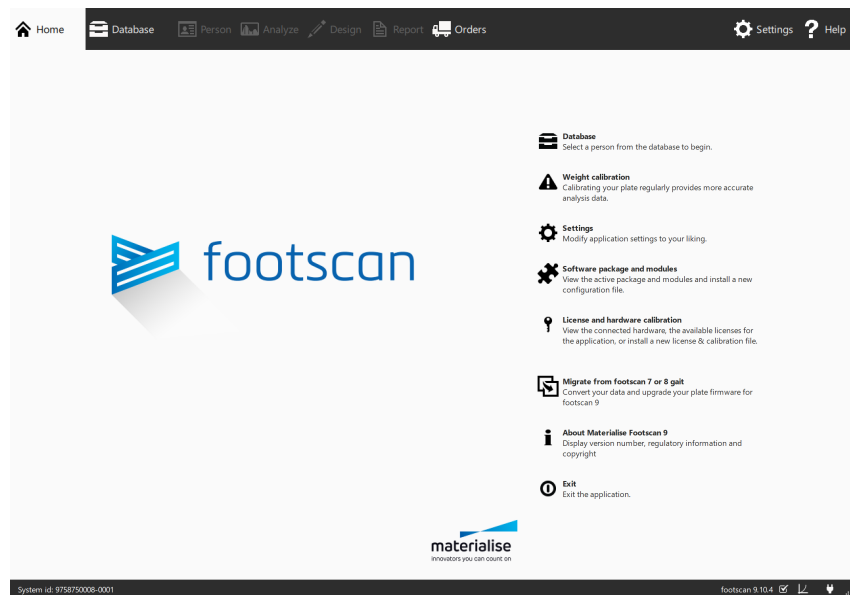

Figure 10: The license and hardware calibration dialog can be opened in the home screen.
2. By clicking the **License and hardware calibration** button in the Homescreen (Figure 10). More information about the home screen can be found in 6.